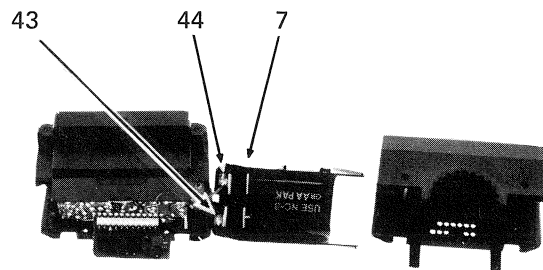

Figure 2-3. Battery Case Removal
- C. Lift battery case (7) out of body case MC, and detach battery terminals (43) and (44) from battery case. (Figure 2-3)